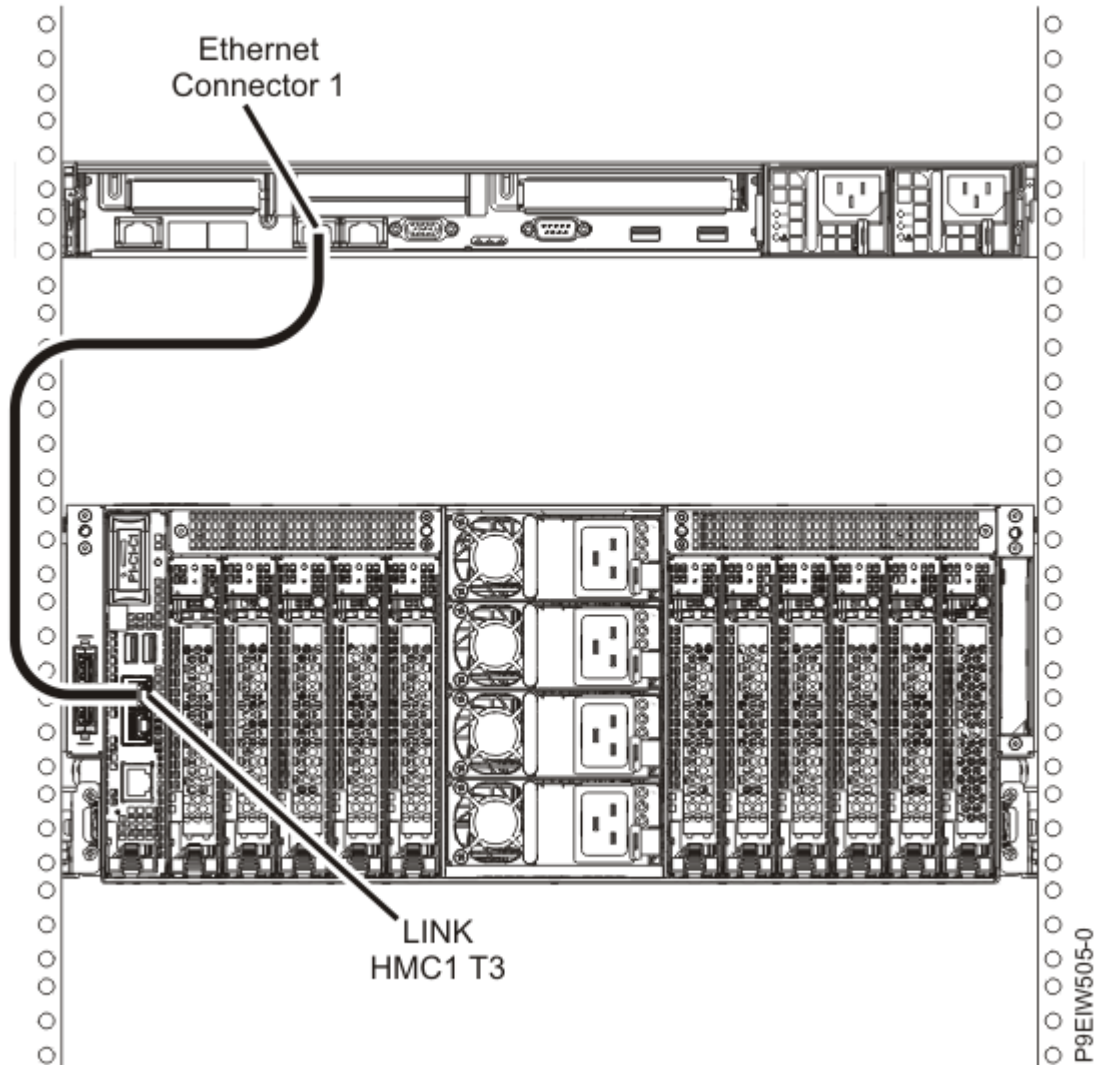

Figure 31: Directly attaching the HMC to the managed system
1. If you want to directly attach your HMC to the managed system, connect **Ethernet Connector 1** on the HMC to the **HMC1 (T3)** port on the managed system, as shown in Figure 31 on page 34